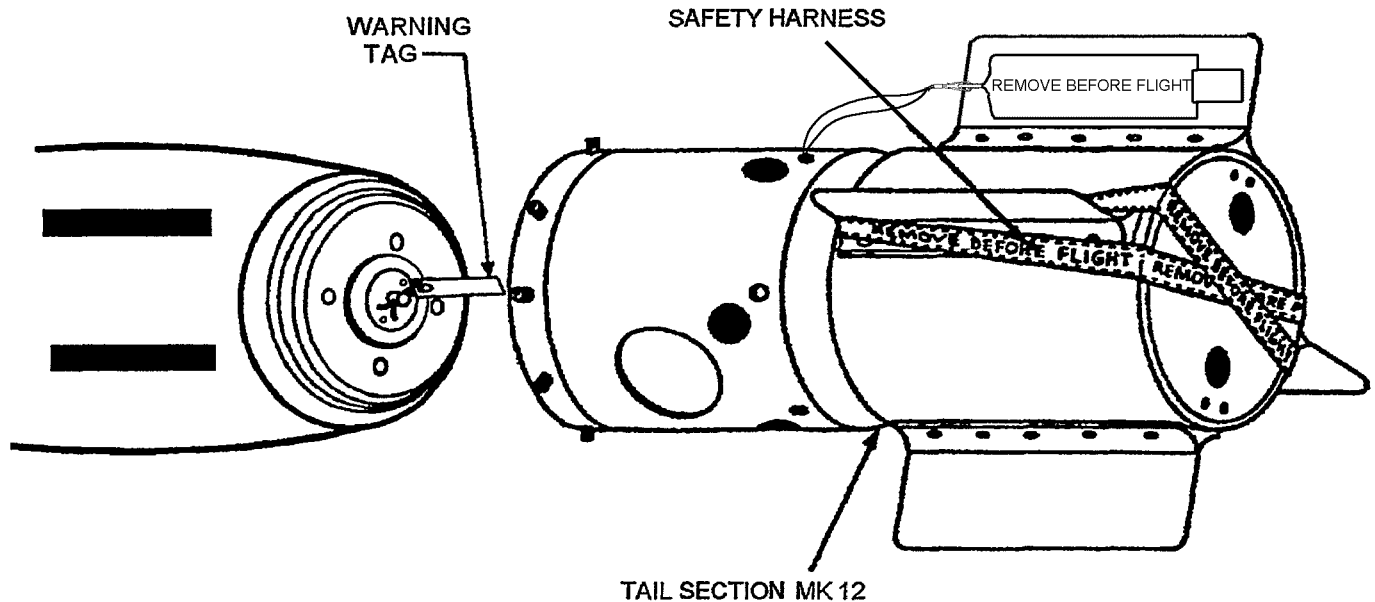

Figure 4-12D. Tail Section Mk 12 Installation
- e. Mount tail section on bomb with the 12 setscrews aligned with V-groove in aft end of bomb (Figure 4-12D). Tighten all setscrews so that they seat in V-groove. Shake the end of the section to determine if it is firmly seated on bomb.
- (1) Torque the four setscrews at the 1, 7, 4, and 10 o'clock positions, in that order, to 20 ft-lb.
- (2) Starting at the 1 o'clock position and moving in a clockwise direction, torque all screws to 20 ft-lb.